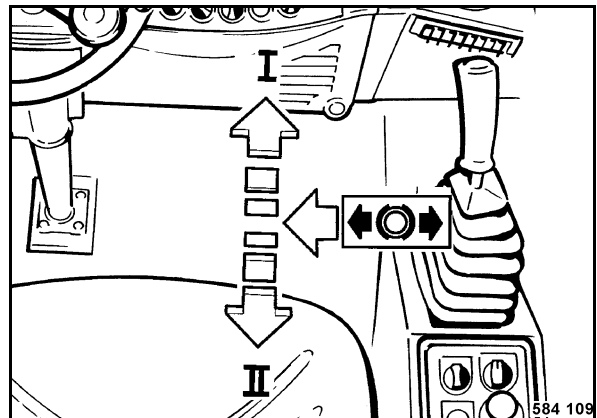

Fig. 134
- Shift the travel lever (Fig. 134) out of braking position to the left to disengage.